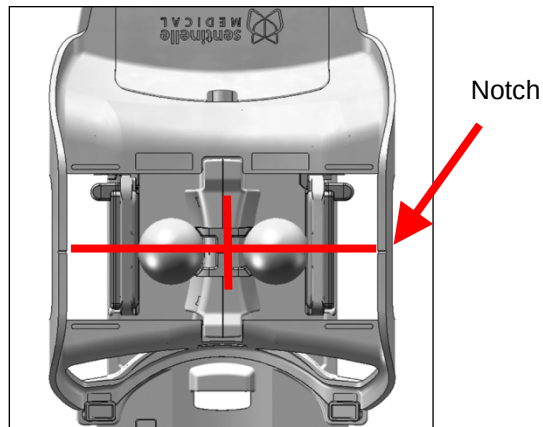

Figure 32: 10 Channel - Landmark Phantoms
5. Landmark using the notch on the edge of the patient support as shown in Figure 32.